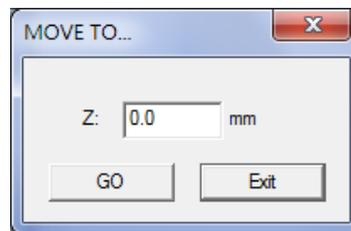

Fig. 1.7.37
1. Click "MOVE TO..." button and input the value in the dialog box like Fig.1.7.37 and click "GO," the Z Axis will move to that specific position. The moving speed can be adjusted from "Speed" parameter.